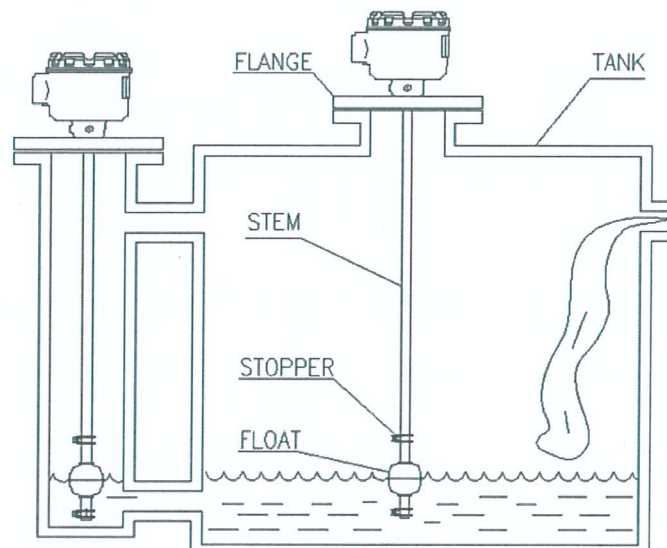

Fig. 1
- 5.2.1 Install it like as shown on following Fig1.